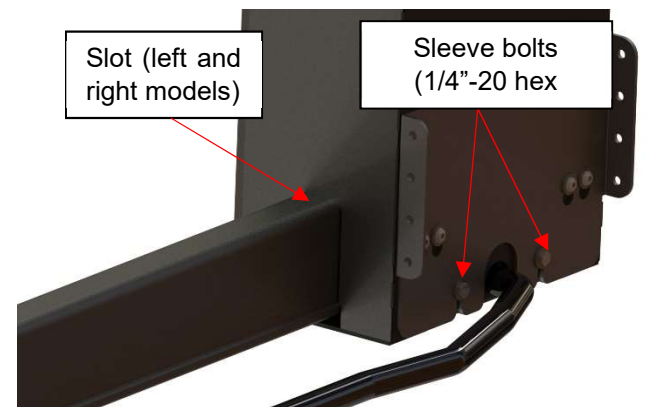

Figure 101
- ♦ When sliding the sleeves over the jacks, ensure the slot at the bottom of the outer sleeve is going to slide over the U-frame that covers the drive shaft. There are right and left models for sleeves (Figure 101)
- 17) Tighten 1/4-20 hexagonal bolts at the bottom of all the sleeves bases. (7/16" (11 mm) socket wrench) ensure that the washer is outside of the outer sleeve. This will ensure the sleeve is held correctly (Figure 101). Repeat this step for all four jacks.